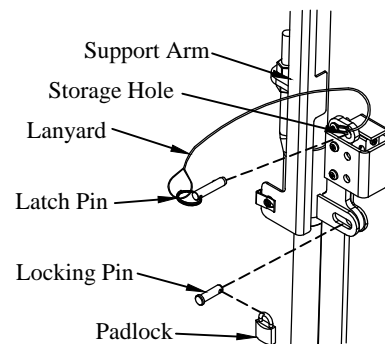

Figure 22: Platform lock.
10. **Insert** the latch pin into the storage hole (Figure 22).
11. **Insert** the locking pin through the hole in the passenger side support arm (Figure 22).
12. **Lock** the padlock through the hole in the locking pin (Figure 22).